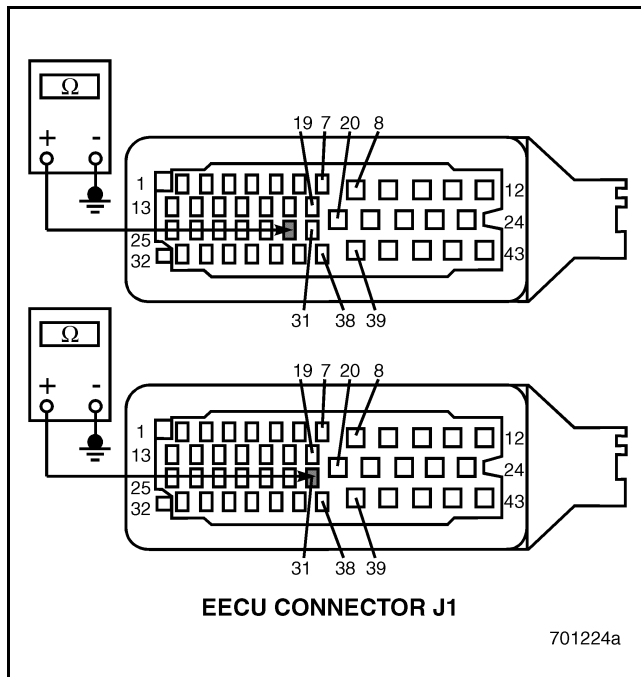

Figure 357
4. Check for continuity between EECU connector J1 pin 30 and a good ground and between EECU connector J1 pin 31 and a good ground (see Figure 357).